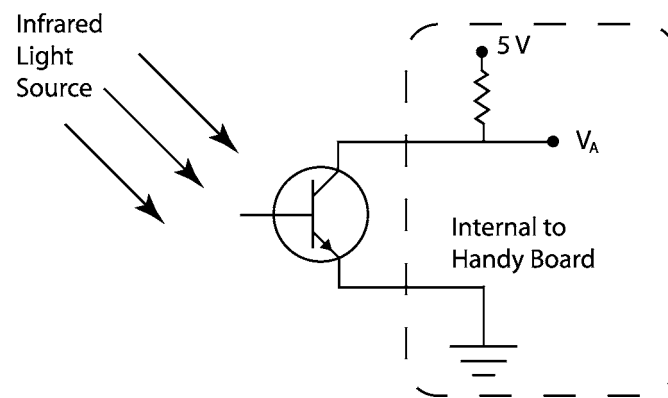

Figure 3. The photosensor and Handy Board combining to form a voltage divider.
Refer to Figure 3 to determine how the phototransistor is inserted into the Handy Board.
- Once the sensor is in place, the internal voltage supply and pull-up resistor combine with the sensor to form a voltage divider to assist in reading the sensory input. The voltage, V_a , in Figure 3 below determines the infrared level the Handy Board will measure.